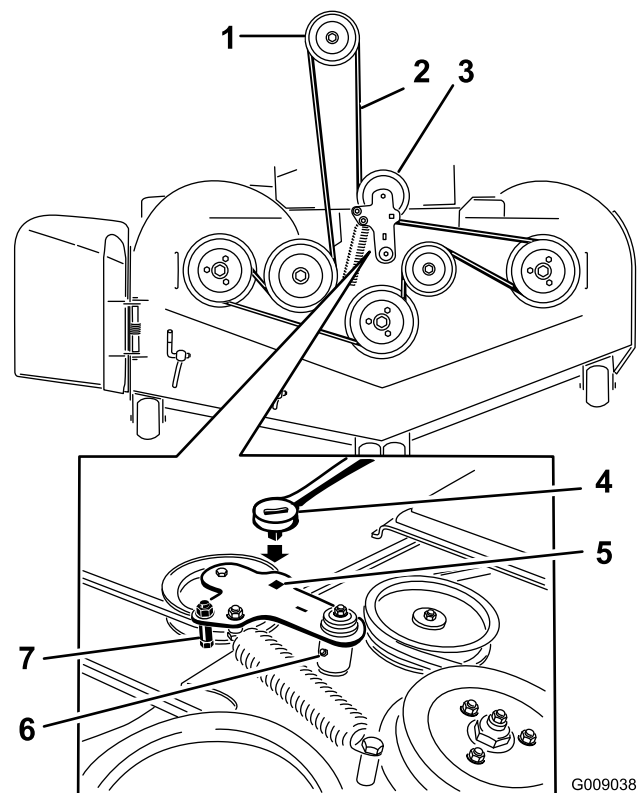

Figure 74
5. Use a ratchet in the square hole in the idler arm to remove tension on the idler spring (Figure 74).
7. Remove the belt guide on the spring loaded idler arm shown in Figure 74.
9. Install the new belt around the mower pulleys and the clutch pulley under the engine (Figure 74).
10. Install the belt guide on the idler arm shown in Figure 74.
11. Using the ratchet in the square hole, install the idler spring (Figure 74).